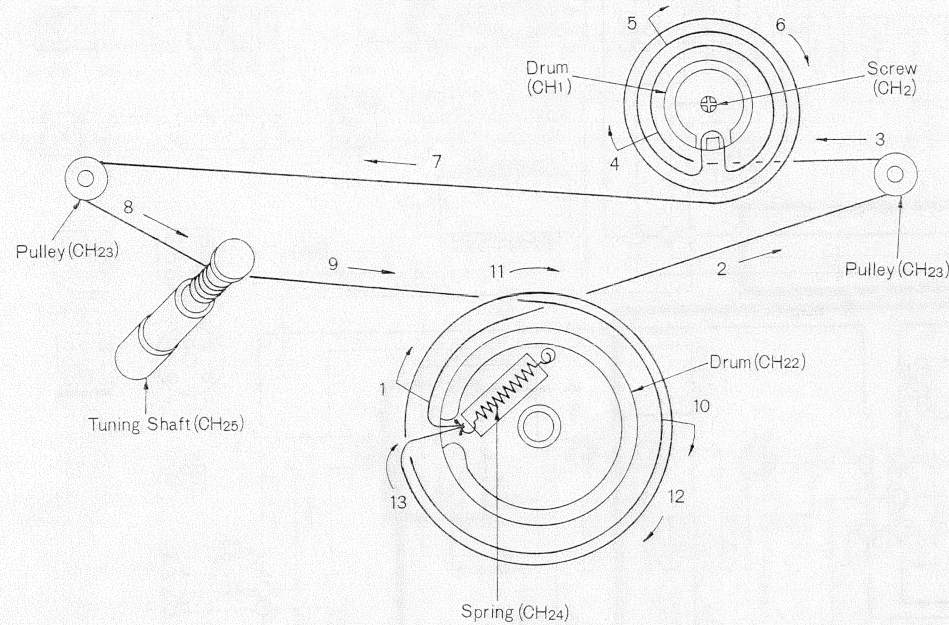

Fig. 7
2. Loosen the dial drum screw, as shown in fig. 7.
3. Set each dial drum at the position, as shown in fig. 7.
5. Arrows (1~13) indicate correct order and direction of dial cord installation, as shown in fig. 7.
9. Align the start point of the dial scale with the pointer of transparent cover, as shown in fig. 7.
10. Tighten the screw of dial drum, as shown in fig. 7.